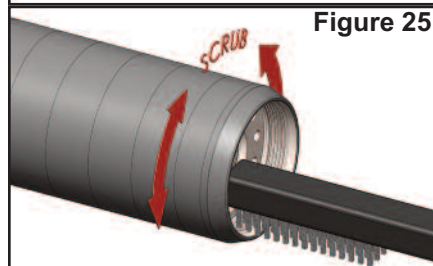

Figure 25
4. Using a gun cleaning brush and solvent, thoroughly scrub the threaded socket and taper in the front of the silencer. See Figure 25.